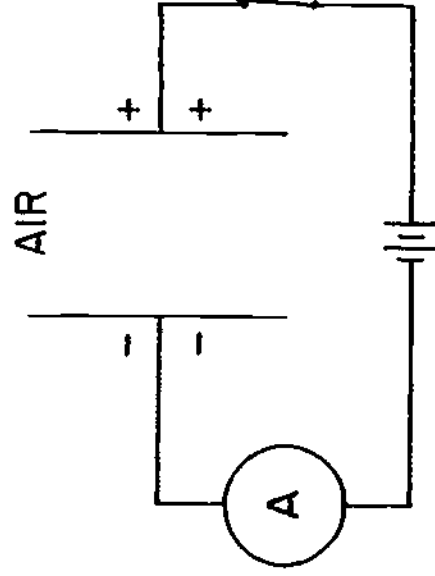
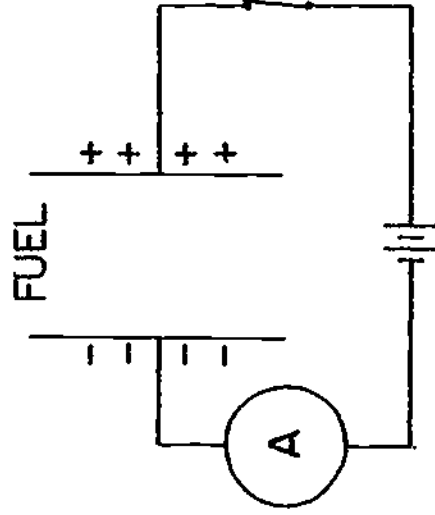

Figure 4.
Figure 5.
a. Determination of Loop Length (Test 1, fig. 5). If the length (distance from test point to far end) of the faulty loop is not known, compute it as follows:
- (1) Measure the loop resistance of a good pair in the cable (par. 14).
- (2) Determine the loop length in miles by dividing the resistance per loop mile (par. 33) into the loop resistance. To compute the loop length in feet, multiply one-half the loop resistance by the number of feet per ohm of the wire.
b. Measurement from Test Point to Short (Test 2, fig. 5). Connect the shorted pair to line binding posts X1 and X2 and balance the bridge. Record the resistance measurement.
c. Equivalent Measurement from Far End (Test 3, fig. 5). Have a good cable pair connected to the shorted pair at the far end. Disconnect the shorted pair from the test set, connect the good pair to line binding posts X1 and X2, and measure the resistance of this circuit arrangement. Subtract the loop resistance (a(1) above) from the test 3 resistance measurement to obtain an equivalent resistance measurement from the far end of the shorted circuit.
In figure 4 below, a capacitor is shown with air as the dielectric. This causes a certain amount of capacitance. Notice that using air as a dielectric the battery causes a certain number of electrons to build up on the negative plate and a certain number of electrons are removed from the positive plate. In figure 5 below, the dielectric used is fuel. This results in more capacitance than in figure 4, although the two capacitors are identical. This dielectric allows more electrons to be stored on the negative plate and more electrons to leave the positive plate. Because fuel has a higher "K" factor than air, the capacitance of the capacitor is greater. This changing of capacitance because of the dielectric changing is the basic principle of operation of the Capacitance Fuel Quantity Bridge Circuit.